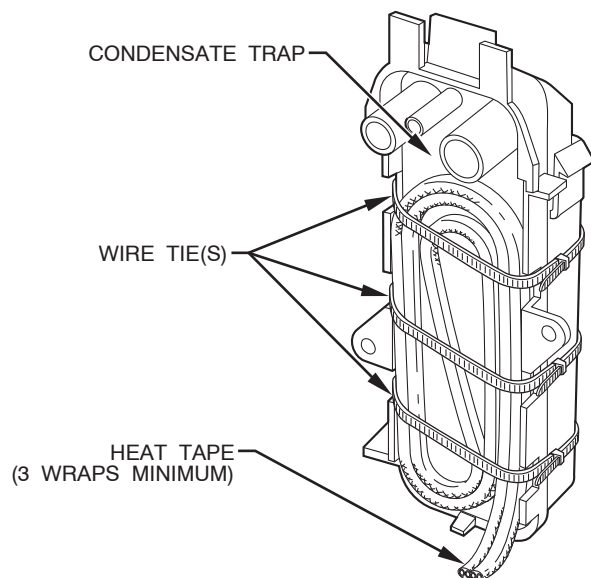

Fig. 46 - Condensate Trap Heat Tape
2. Locate heat tape between sides of condensate trap back. (See Fig. 46.)
3. Use wire ties to secure heat tape in place. Wire ties can be positioned in notches of condensate trap sides. (See Fig. 46.)